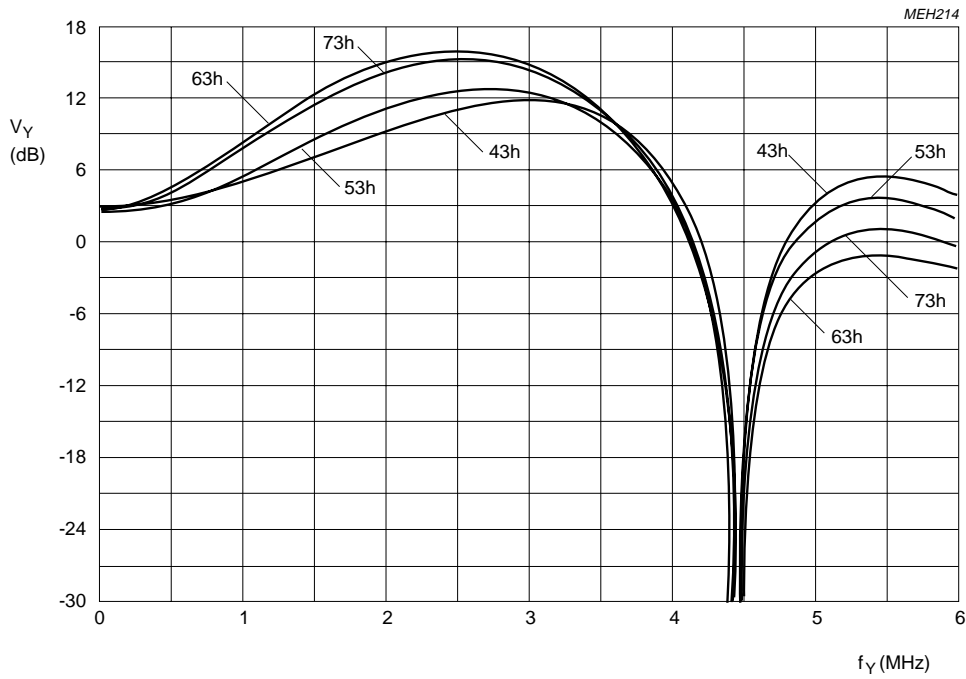

Fig.16 Luminance control in **50 Hz / CVBS** mode controllable by subaddress byte 06; pre-filter on and coring off; maximum aperture bandpass filter characteristic.
Figure 16 to 25
- dependent on application (Figures 16 to 25)